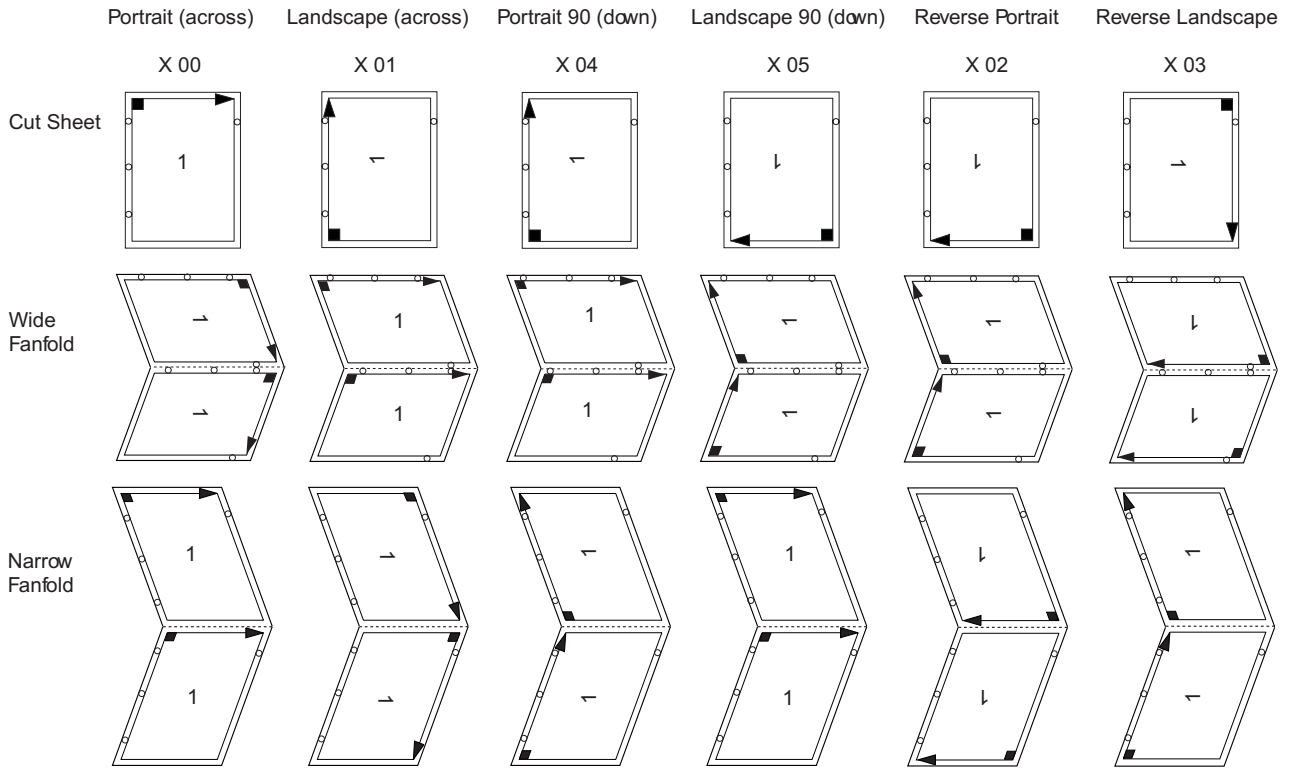

Figure 71. N_UP 1 Partition Numbering, Front Sheet-Side
- I Figure 71 on page 138 through Figure 82 on page 143 show the partition arrangement that results from every combination of **N_UP** value, paper size, and presentation option.